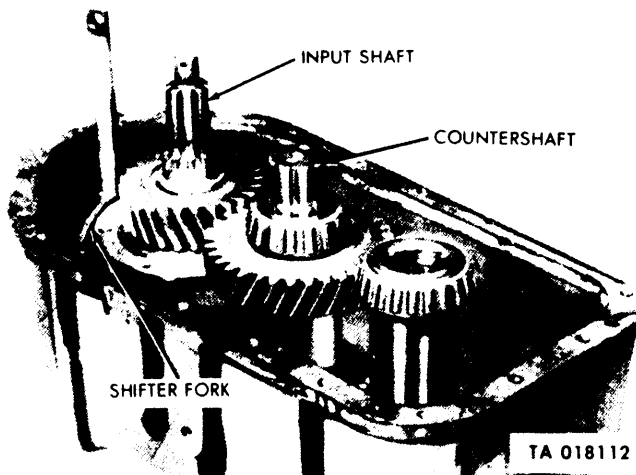

Figure 4-13. Shifter Fork, Input Shaft, and Countershaft.
p. *Shifter Fork, Input Shaft Assembly and Countershaft Assembly.* Using a soft pin and hammer, drive the input shaft loose. (See fig. 4-13.) Then lift the input shaft assembly, synchronizer assembly, fork assembly, and countershaft assembly from the transfer case.
b. Shifter fork, input shaft assembly, and countershaft assembly. (See fig. 4-13.)